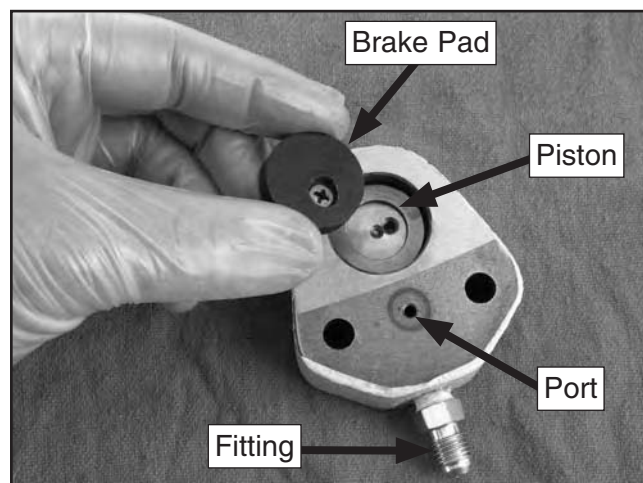

Figure 135. Installing new brake pad.
10. Hold a shop rag over the ports and the hydraulic line fitting to absorb the brake fluid that will be forced out, then press on the pistons until they are fully seated in the housing bores (see **Figure 135**).